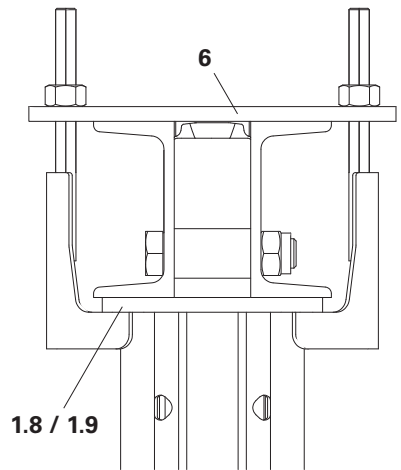

Fig. A6.01b
6. Tighten the Hex. Nuts M16 (6.4). (Fig. A6.01b)